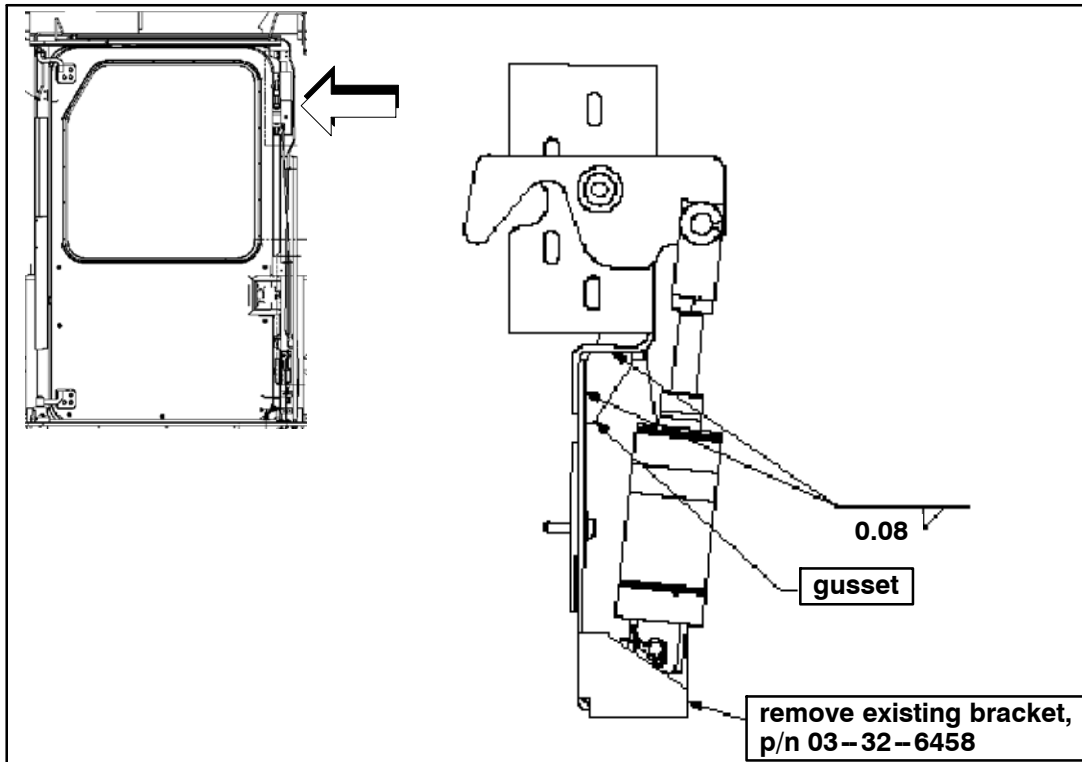

Figure 23.
29. Remove existing bracket assy–cylinder upper, p/n 03–32–6458, from door (refer to Figure 23) and place on a workbench. Retain mounting hardware.
30. Position gusset, p/n 03–31–3261, as shown in Figure 23. Weld gusset flush on existing bracket assy–cylinder upper as per specifications shown in Figure 23.